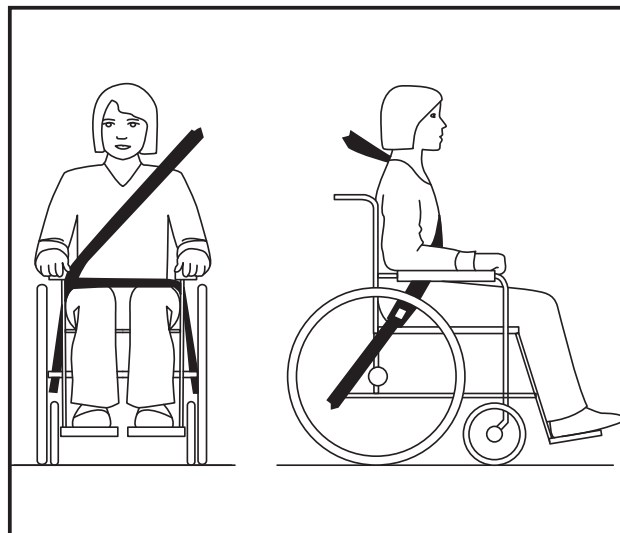

Figure 58
- Make sure the seat belt is not kept away from the body by the wheelchair parts, such as armrests and wheels. For correct positioning, see figure 58